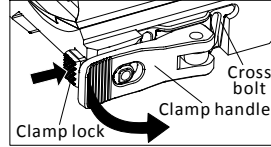

Fig 3-1
2. Designed with our patented nonlinear cam clamping system, no tools are required for attaching to a rail. Push locking button, lift up handle to loosen the locking bar. To mount sight on rail, push the handle down, locking button will automatically engage. The installation is complete. (fig 3-1)